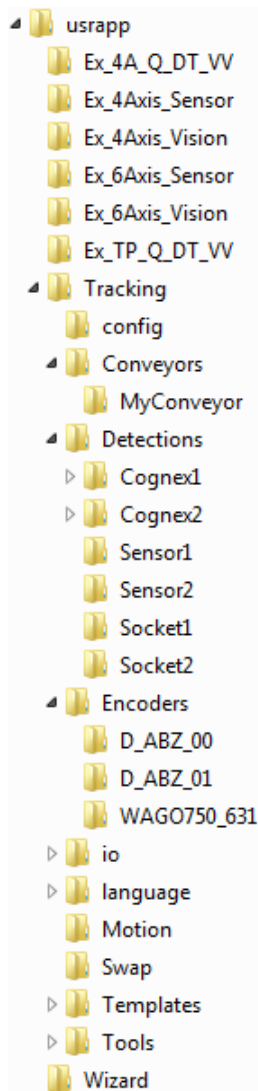

Figure 2.6
-The folder Tracking\Conveyors contains all the conveyor's libraries available in the system. This folder is empty after installation of the VAL3 software package but it will be filled with the calibration files created by the Wizard application (e.g. file MyConveyor in the figure 2.6).